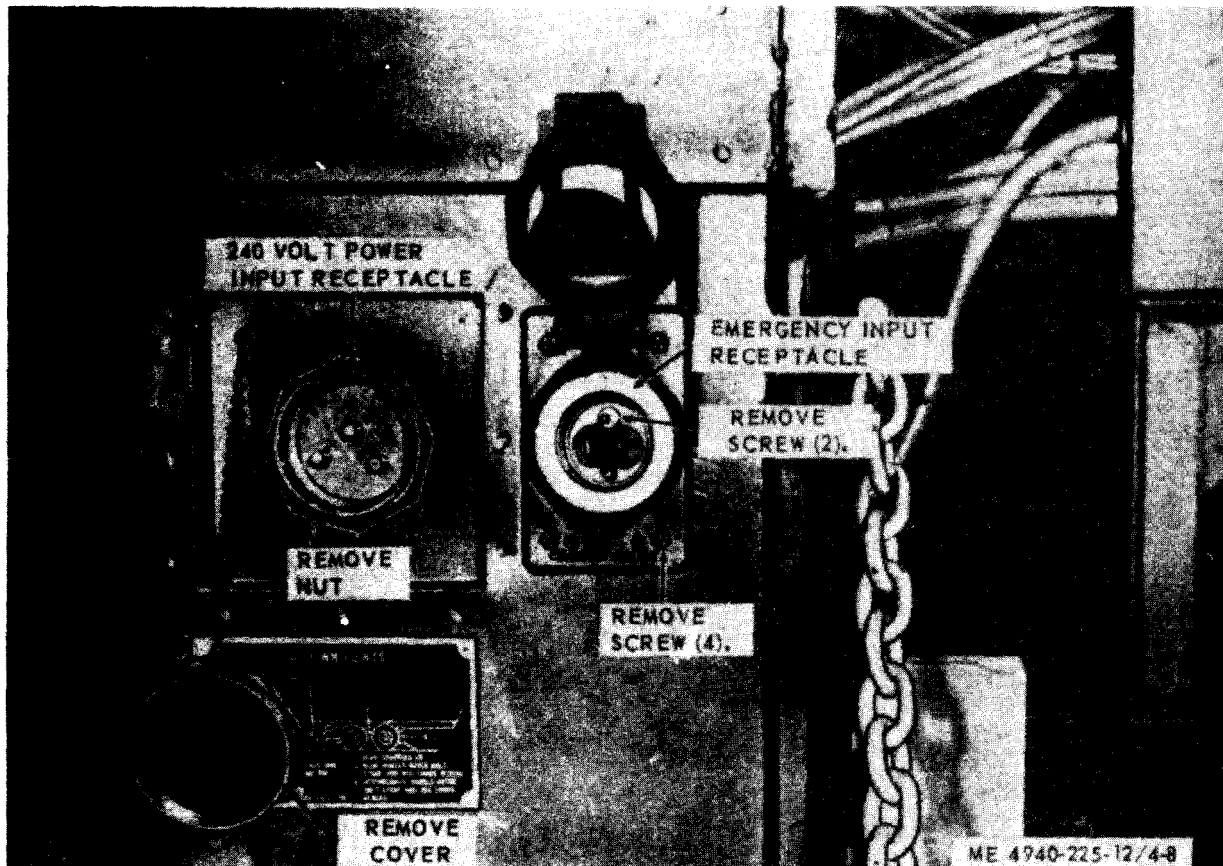

Figure 4-8. Emergency and external power receptacle. removal and installation.
a. *Removal.* Remove the emergency power receptacle as illustrated in figure 4-8.
(1) Clean metal p-parts with cleaning solvent and dry thoroughly.
(2) Inspect for defective or missing hardware and loose electrical connections.
(3) Replace defective or missing hardware and parts as necessary and be sure all electrical connections are clean and secure.
(4) Inspect jumper cable for damage and broken or cracked insulation. Replace a defective cable that cannot be repaired.
c. *Installation.* Install the emergency power receptacle as illustrated in figure 4-8.
(1) Remove the large nut that retains the receptacle in the side panel, then remove the receptacle out through rear of the side panel (fig. 4-8).
(2) To replace a defective receptacle, unsolder the electrical leads and resolder them to the new receptacle.
(3) To remove the receptacle for other purposes, unscrew the knurled knobs that retain the dynamotor hinged control panel in closed position and open control panel. Remove the three electrical leads marked with circuit No. 220, 221, and 222, from the back of terminals L1, L2, and L3, below